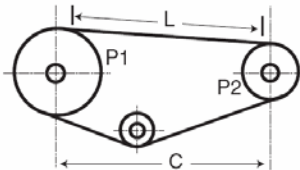

Figure 3. Measuring Free Belt Span (L)
2. Check that the belt density (kg/m or lb/ft) and Free Belt Span (L) settings for the belt involved have been entered into the microprocessor by pressing the corresponding pad keys. When the key is pressed, the display will flash the last value of the parameter selected. If correct, press ENTER \leftarrow to confirm the setting. If incorrect, press the UP \uparrow or DOWN \downarrow key to adjust to the correct value, then press ENTER \leftarrow to accept revised value.
3. Tap or pluck the drive belt at the middle of the Free Belt Span so that it begins to vibrate. Hold the sensor probe approximately at the center of the L span, and at a distance of 3 to 20 mm above the belt, with its light directed to the belt. Refer to Figure 3. Readings will appear on the display.